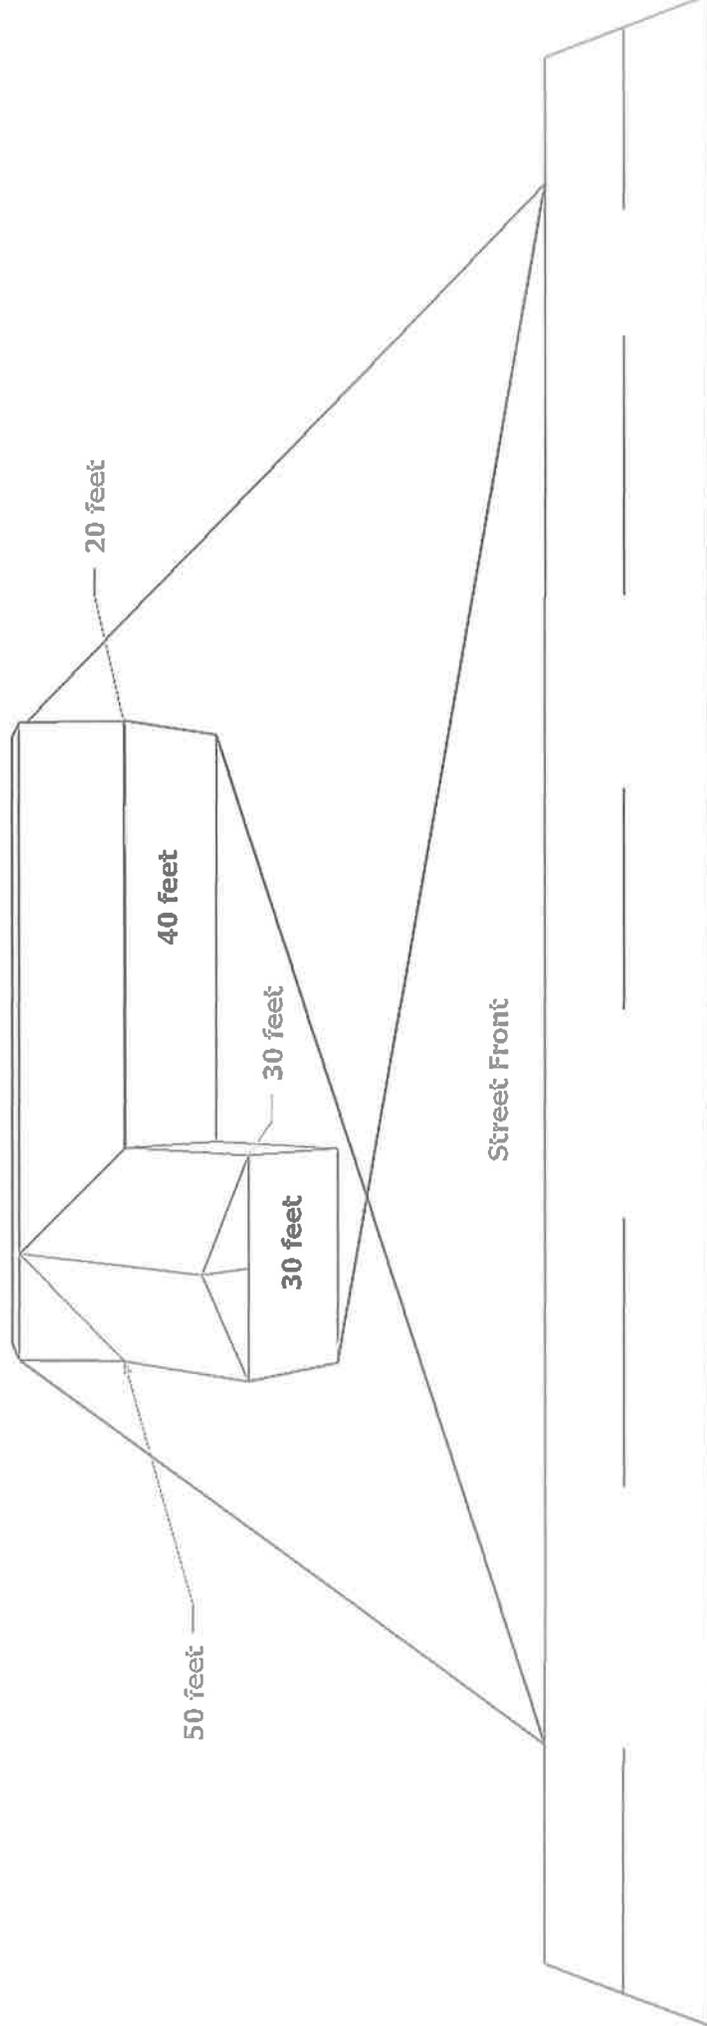

Figure 2
2. **F** = Length of the longest horizontal straight section of the exterior façade visible from the street. (see Figure 2) F=_____ft.
- a. There must be an intervening physical separation of space or wall which makes horizontal separation of at least three (3) feet (see Figure 2).
- b. The intervening physical separation of the space and wall must maintain that separation for at least one (1) foot vertically.
- c. The total perimeter length of the intervening space or wall section must be at least five feet (i.e. section a. above must total five (5) feet) (see Figure 2).